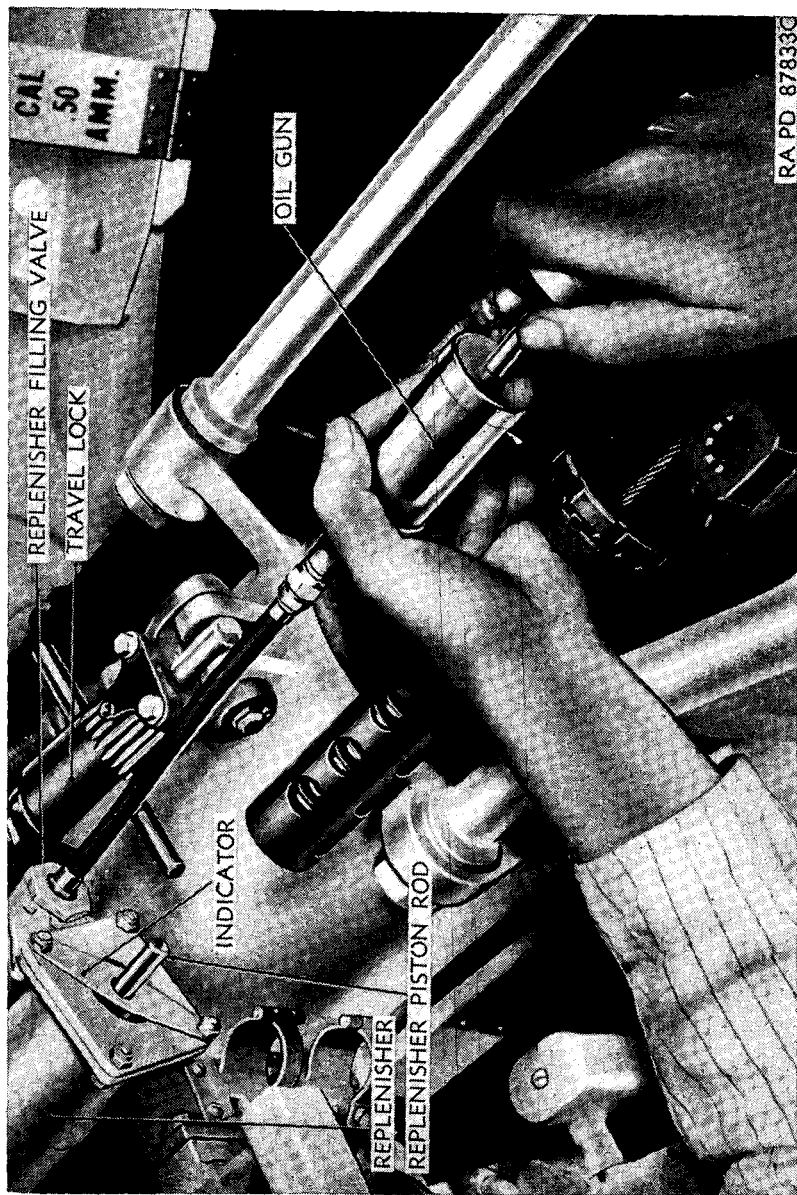

Figure 168. Filling replenisher.
(1) Observe distance the replenisher piston rod projects beyond indicator (fig. 168). A projection of $\frac{3}{16}$ -2 inches is normal.
(2) Oil specified on lubrication order (par. 62) is added or removed as required to keep piston rod in normal position.
b. To add oil to replenisher, remove plug from filling valve (fig. 168) and screw oil gun hose into opening. Operate gun until piston rod projects at least one-quarter inch. Remove filler hose; insert and tighten filler plug.
c. **MAINTENANCE.** Make sure that the traveling lock (fig. 168) seats securely in the rear mounting holes of the machine gun and that the lock spring holds the hook without play. When not in traveling position, the arm spring should keep the arm against the hull roof.